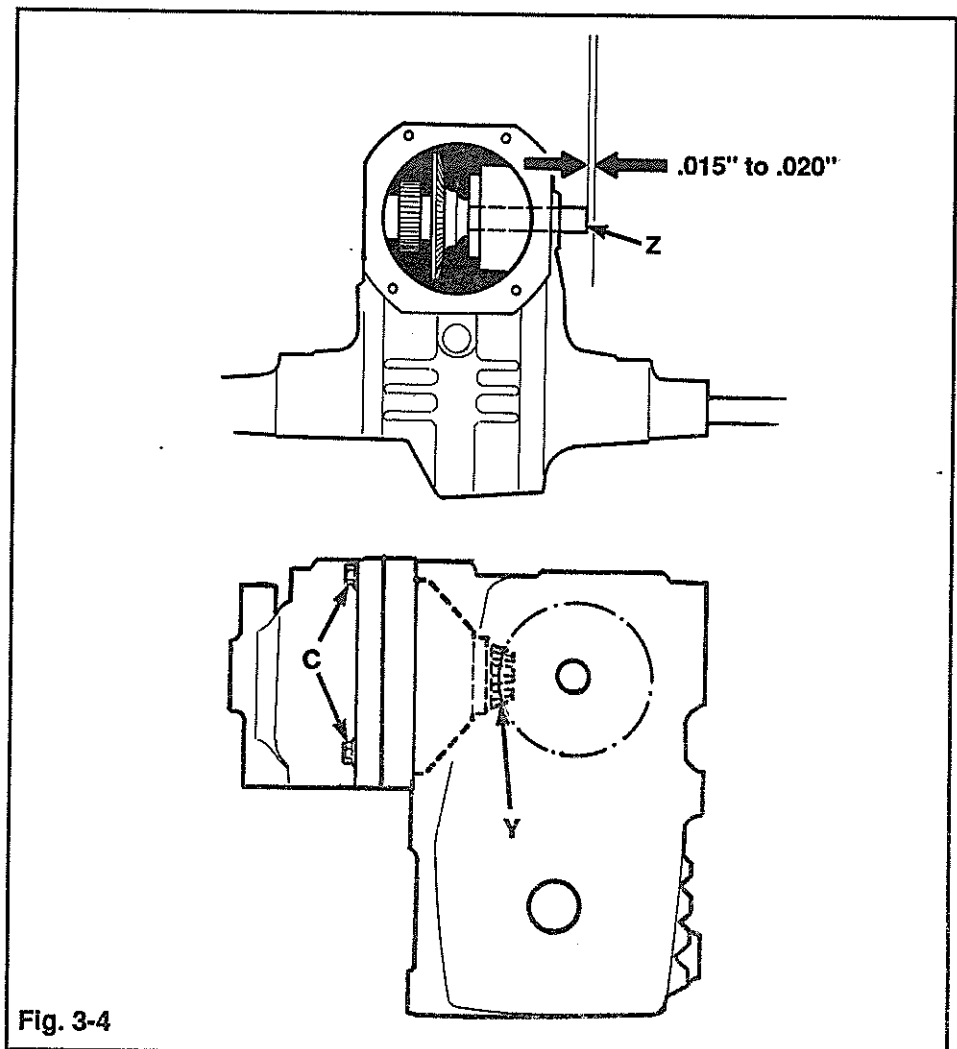

Fig. 3-4
13. Remove four (4) mounting bolts holding hydro to rear axle. It may be necessary to tap on hydro to break it loose from rear axle housing (Fig. 3-4).
INSTALLATION (Fig 3-4)
1. Clean the mounting surface (on the hydro and transaxle) of all oil, grease and dirt before re-installing the hydro. Run a thin bead of silicon rubber around the mounting surfaces and around bolt holes (not in the bolt holes). Secure with the four (4) capscrews and lockwashers removed earlier (C, Fig.3-4). Coat mounting screws with loctite 242 (or equivalent) and torque them to 24 ft.-lbs. (32.5 N-m) when fastening.
2. Check for pinion to bevel gear backlash using a dial indicator to check the end play of the brake shaft (Z, Fig 3-4), backlash at this point should be .015" to .020" (this will give the proper backlash between the bevel and pinion gears. If end play is not within these tolerances it will be necessary to remove the transmission from the differential, remove the pinion gear (Y) from the transmission, and reshim. If the end play is less than .015" you will need to add shims. If it is more than .020", you will need to remove shims. Coat bolt with Locktite 242 (or equivalent) and re-install gear washer and bolt and torque to 24ft.-lbs. Re-assemble and check for end-play. Reinstall suction line on **BOTTOM** of hydro and rear axle.